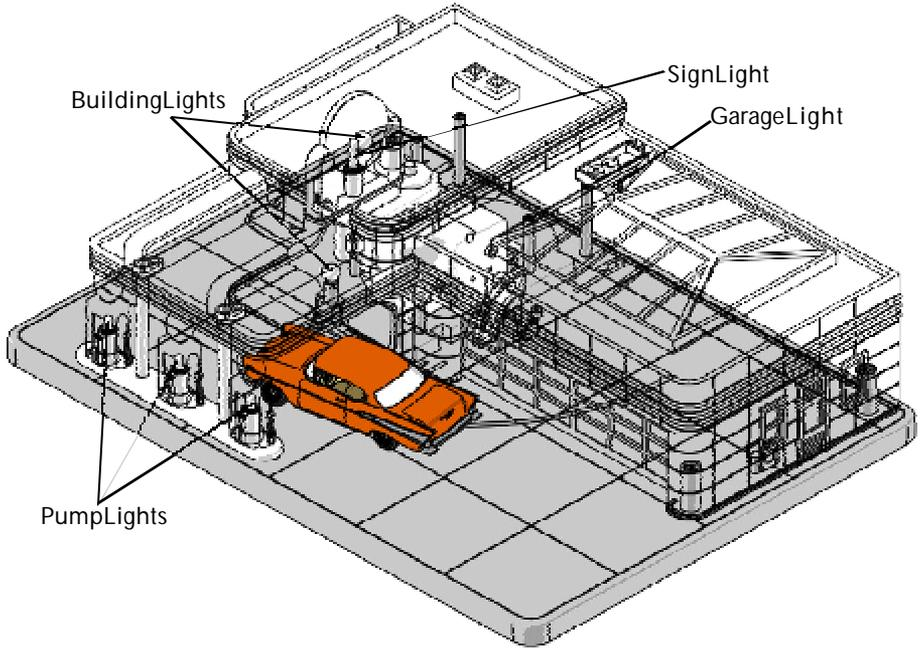

Fig4. Locationsoftheinteriorbulbsofthe GasStation
**Sign Light:** Pop the circular part of the sign off to access the bulb. To replace the bulb, simply pull it out and push a new one in, like Christmas tree lights (See Fig. 4).
**Pump Lights:** Pop the gas pump off the base to access the bulb. To replace the bulb, pull it out and push a new one in, like the sign light (See Fig. 4).
**Building Lights:** Twist the bulbs counter-clockwise then pull to remove them. Push in and twist clockwise to replace the bulb (See Fig. 4).
**Garage Light:** Pull the bulb out and push the new one in to replace it (See Fig. 4).